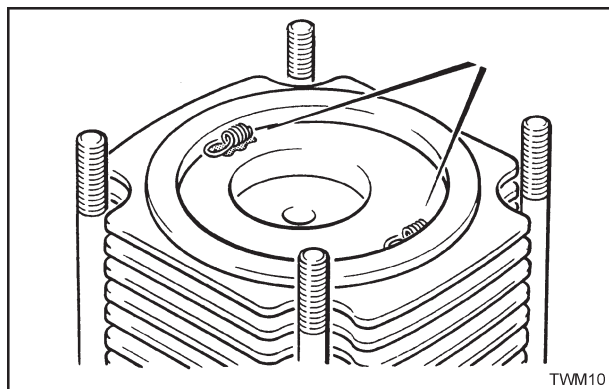

Figure 2.12.1 Cylinder Head Clearance
6. Refer to 'Figure 2.12.1' and using a very small amount of grease place the two pieces of wire on the piston crown.
3. Refer to 'Figure 2.12.1' and using a very small amount of grease place the two pieces of wire on the piston crown.